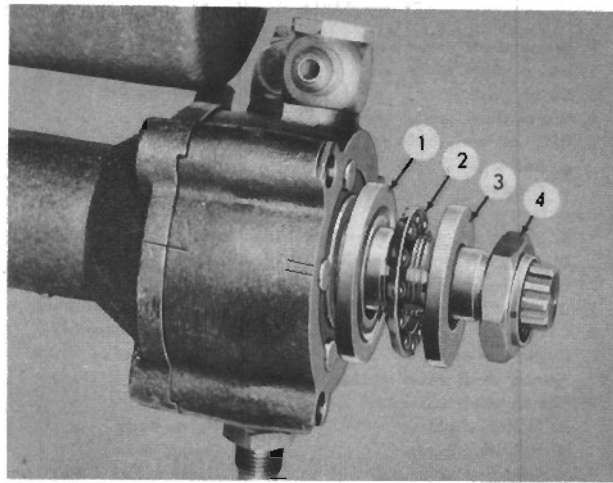

FIG. 61
Remove the thrust bearing assembly. The assembly consists of the outer race (3, Fig. 61), bearing (2), and inner race (1). It should be noted that the outer race is of smaller diameter than the inner race.